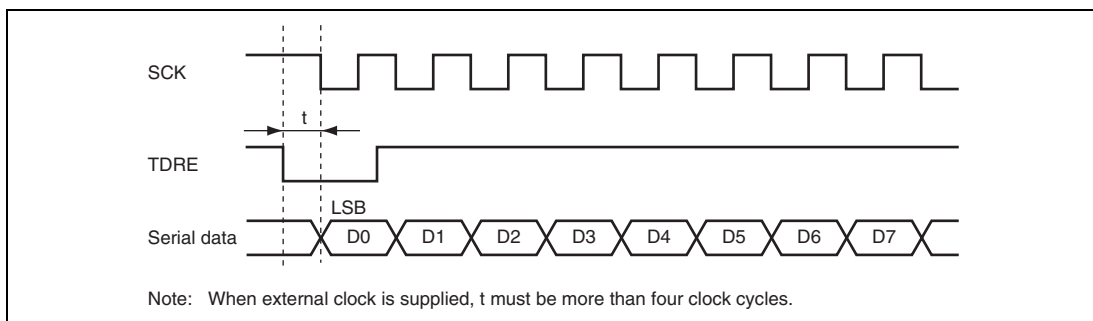

Figure 13.33 Sample Transmission using DTC in Clocked Synchronous Mode
- When the external clock source is used as a synchronization clock, update TDR by the DTC and wait for at least five $P\phi$ clock cycles before allowing the transmit clock to be input. If the transmit clock is input within four clock cycles after TDR modification, the SCI may malfunction (figure 13.33).